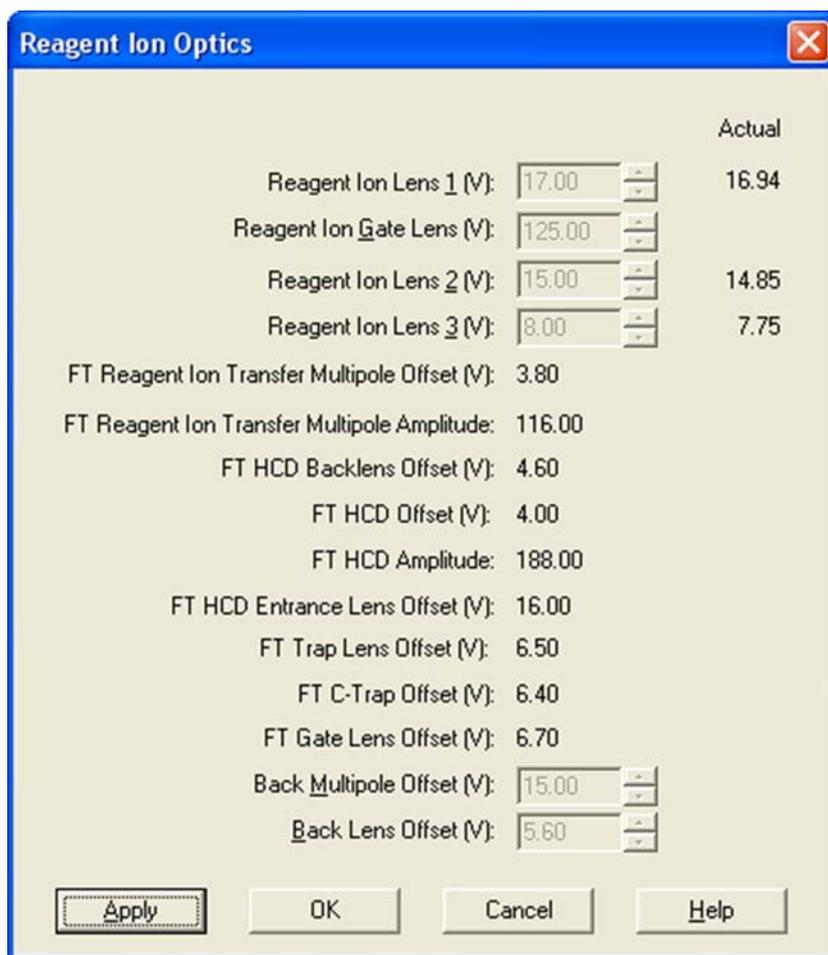

Figure 8-16. Reagent Ion Optics dialog box
1. Click the Reagent Ion Optics instrument control icon in the Tune Plus window to open the Reagent Ion Optics dialog box. The parameters in the Reagent Ion Optics dialog box have been optimized by the Auto Tune process. See Figure 8-16 on page 8-18.